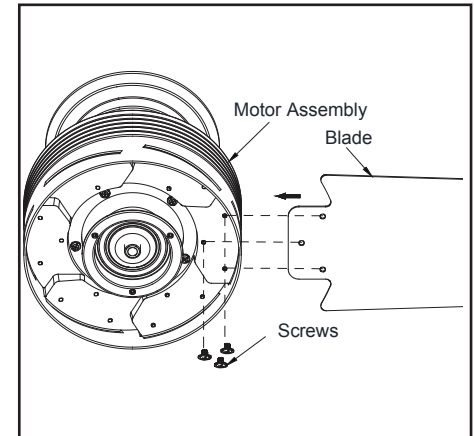

Figure 13
1. Insert the blade through the slot cut-off in the center flywheel, align the three screw holes in the blade with the screw holes in the flywheel and secure with the screws provided. (Figure 13)